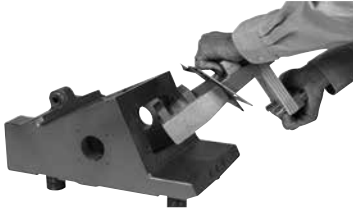

FIGURE 11
8. Insert armature and diaphragm assembly through opening in front of base casting as shown in Figure 11.